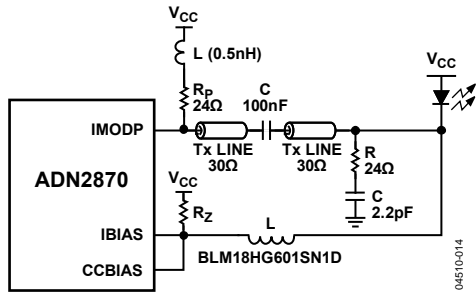

Figure 32. Recommended Interface for ADN2870 AC Coupling
The schematic in Figure 32 describes the recommended circuit for interfacing the ADN2870 to most TO-Can or coax lasers. These lasers typically have impedances of 5 Ω to 7 Ω and have axial leads. The circuit shown works over the full range of data rates from 155 Mbps to 3.3 Gbps including multirate operation (with no change to PAVCAP and ERCAP values); see the Typical Performance Characteristics for multirate performance examples.
Coax lasers have special characteristics that make them difficult to interface to. They tend to have higher inductance, and their impedance is not well controlled. The circuit in Figure 32 operates by deliberately miterminating the transmission line on the laser side, while providing a very high quality matching network on the driver side. The impedance of the driver side matching network is very flat vs. frequency and enables multirate operation. A series damping resistor should not be used.
The 30 Ω transmission line used is a compromise between drive current required and total power consumed. Other transmission line values can be used, with some modification of the component values. The R and C snubber values in Figure 32, 24 Ω and 2.2 pF, respectively, represent a starting point and must be tuned for the particular model of laser being used.  $R_p$ , the pull-up resistor, is in series with a very small (0.5 nH) inductor. In some cases, an inductor is not required or can be accommodated with deliberate parasitic inductance, such as a thin trace or a via placed on the PC board.
Recommended component layouts and gerber files are available by contacting sales at Analog Devices. Note that the circuit in Figure 32 can supply up to 56 mA of modulation current to the laser, sufficient for most lasers available today. Higher currents can be accommodated by changing transmission lines and backmatch values; contact sales at Analog Devices for recommendations. This interface circuit is not recommended for butterfly-style lasers or other lasers with 25 Ω characteristic impedance. Instead, a 25 Ω transmission line and inductive (instead of resistive) pull-up is recommended; contact sales for recommendations.
In the circuits shown in Figure 32 and Figure 33, Resistor  $R_z$  is required to achieve optimum eye quality. The recommended value is approximately 200 Ω ~ 500 Ω.
**Table 6. ADN2870 Response to Various Single-Point Faults in AC-Coupled Configuration, as Shown in Figure 32**